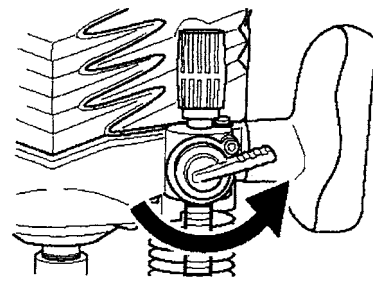

Fig. 1
① Quick adjustment mechanism (Fig. 1)